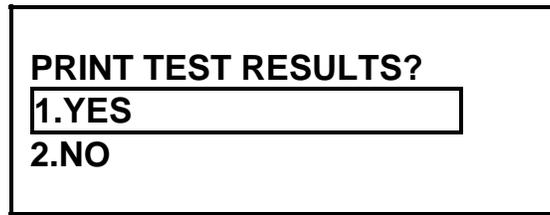

Figure 25.0 Print Test Results Menu
- c. **Action Options:** Press any key or push down the Control Knob to go to the “Print Test Results Menu” (Figure 25.0).
- b. **Origin:** This menu is displayed after the operator selects 1 (“YES”) from the “Print Test Results Menu” (Figure 25.0).
- b. **Origin:** After the operator selects 1 (“YES”) or the operator selects 2 (“NO”) from the “Print Test Results Menu” (Figure 25.0).